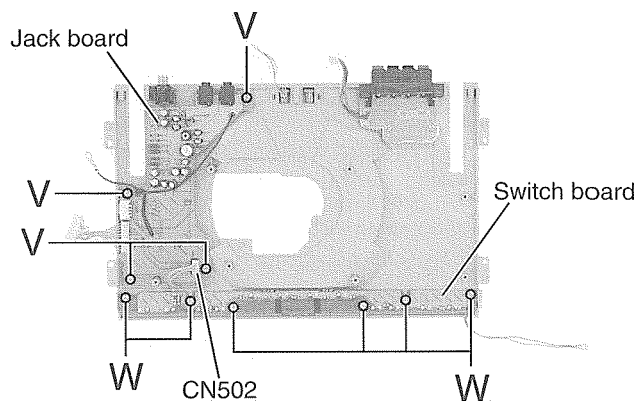

Fig.33
■ Removing the jack board (See Fig.33)
■ Removing the switch board (See Fig.33)